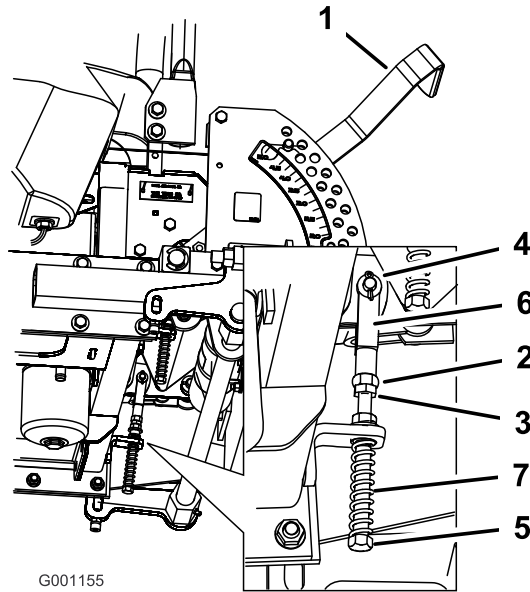

Figure 74
8. If adjustment is needed, loosen the nut and jam nut against the yoke (Figure 74).
9. Apply slight rearward pressure on the motion-control lever, turn the head of the adjustment bolt in the appropriate direction until the control lever is centered in the NEUTRAL-LOCK position (Figure 74).
10. Tighten the nut and jam nut (Figure 74).